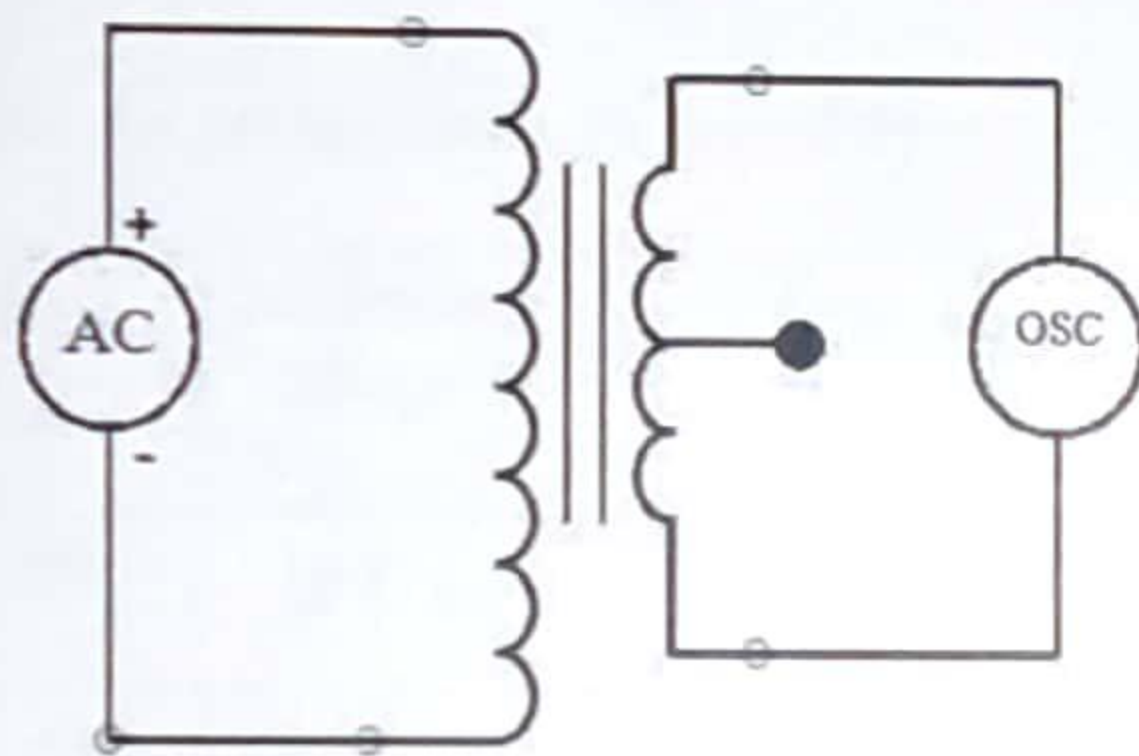

Figure 2
1. Complete the circuit diagram, as shown in Figure 2.
Table 1 (Use the set up shown in Figure 2)